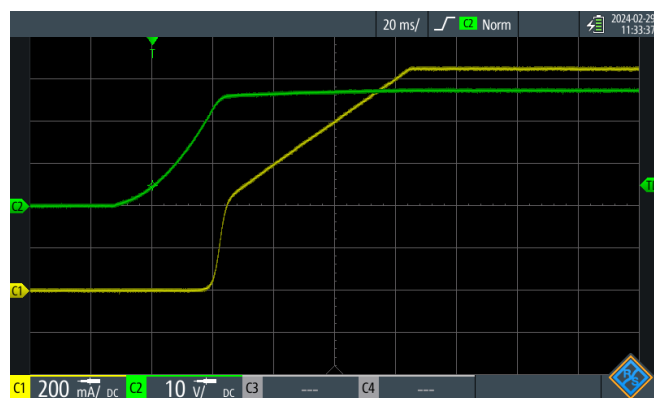

Figure 18. low slope limit, output is slow, large delay ( $K_p=0.16$ ,  $T_i=0.00001$ ,  $T_d=0$ , Slope Limit=10)
- Make sure the slope limit is not the limiting factor. See Figure 18 in chapter 4 Examples.
The slope limit can be used to slow down the rate of change of the output current. However, if it is set too restrictive, it might slow down the change of the output too much as seen in Figure 18.